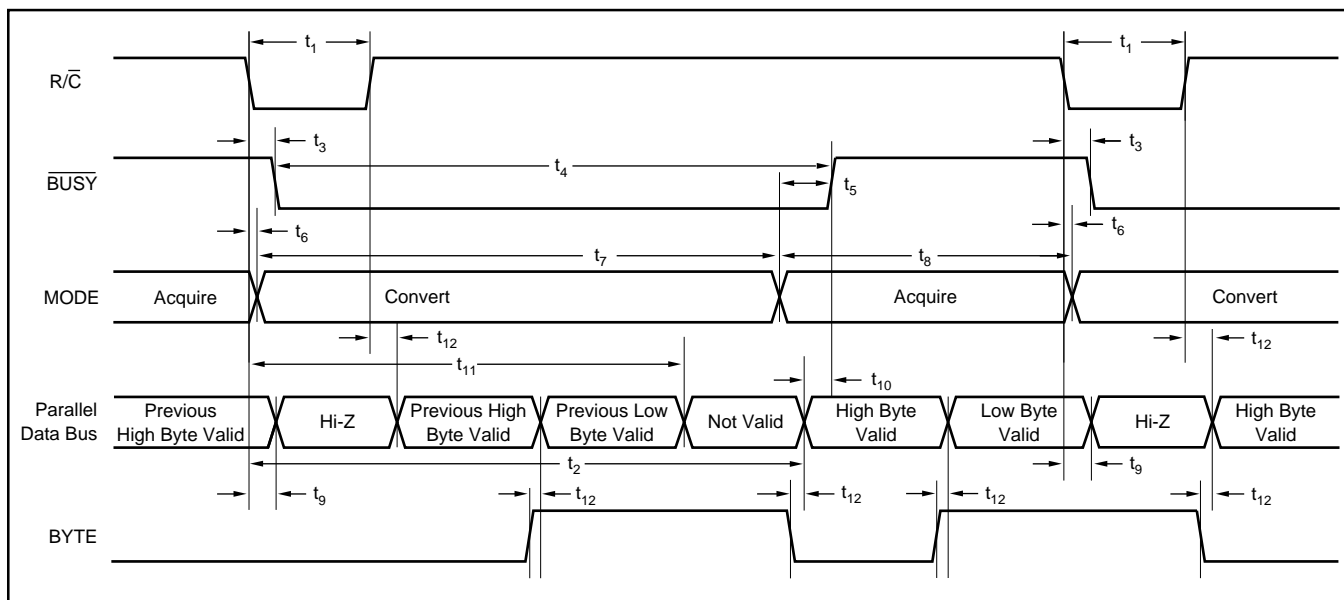

FIGURE 2. Conversion Timing with Parallel Output ($\overline{\text{CS}}$ and DATACLK tied LOW, $\overline{\text{EXT/INT}}$ tied HIGH).
The ADS7807 will begin tracking the input signal at the end of the conversion. Allowing 25µs between convert commands assures accurate acquisition of a new signal. Refer to Tables II and III for a summary of \overline{CS} , R/\overline{C} , and \overline{BUSY} states, and Figures 2 through 6 for timing diagrams.
NOTE: (1) See Figures 2 and 3 for constraints on data valid from conversion 'n - 1'.
After conversion 'n' is completed and the output registers have been updated, $\overline{\text{BUSY}}$ (pin 24) will go HIGH. Valid data from conversion 'n' will be available on D7-D0 (pins 9-13 and 15-17). $\overline{\text{BUSY}}$ going high can be used to latch the data. Refer to Table V and Figures 2 and 3 for timing constraints.
After conversion 'n' has been initiated, valid data from conversion 'n - 1' can be read and will be valid up to $12\mu\text{s}$ after the start of conversion 'n'. Do not attempt to read data beyond $12\mu\text{s}$ after the start of conversion 'n' until $\overline{\text{BUSY}}$ (pin 24) goes HIGH; this may result in reading invalid data. Refer to Table V and Figures 2 and 3 for timing constraints.